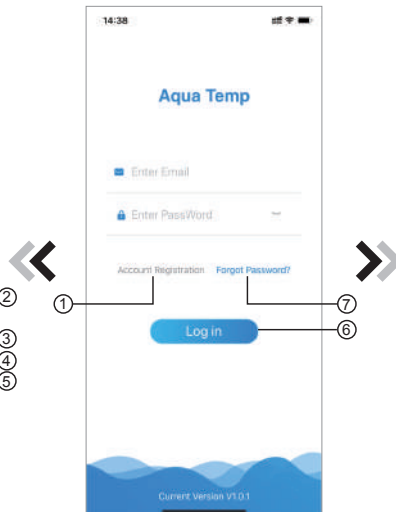
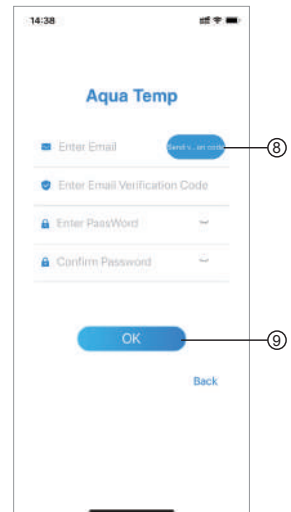

Fig.1 Login interface
Fig.3 Forgot Password interface
1. Account Registration: To register an account, click ① (Fig.1) to jump to the Account Registration interface, fill in the relevant information and click ② to receive verification code, while completed the application information, click ③ to read the details of the Privacy Policy, then click ④ to agree, and click ⑤, registration is done.
2. Log in: Follow the instructions on the page(Fig.1 ), enter your registered email address and password, click ⑥ and jump to device list;
3. Forgot Password: While forget your password, click ⑦ (Fig.1 ), jump to the Forgot Password interface (Fig.3 ). Follow the instructions on the page, fill in the relevant informations, click ⑧ to receive verification code from your mailbox, click ⑨ to confirm and password reset is done.